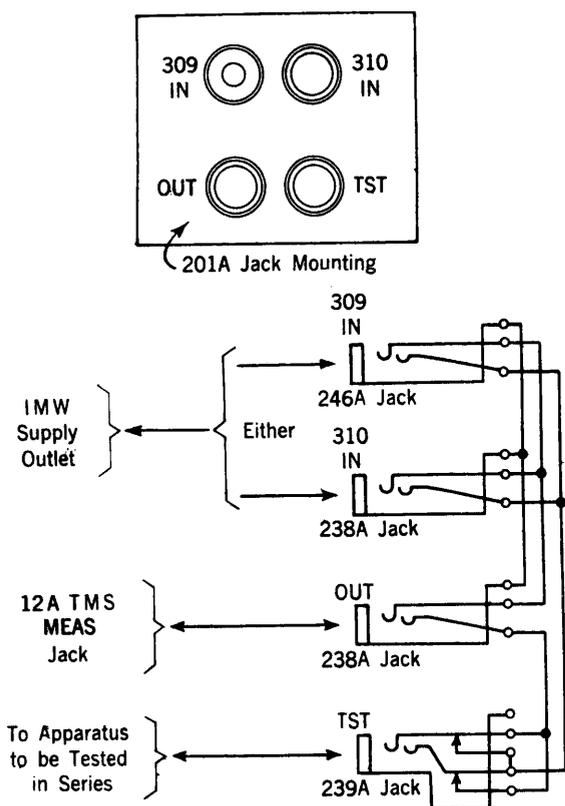

Fig. 4 - Jack Arrangement for Testing Apparatus in Series Condition.
4.16 When the 12A set is employed for measurements of apparatus in the series condition, special arrangements are necessary to provide for the insertion of the apparatus into either the tip or the ring conductor connecting the 12A set to the sending power at the supply outlet. A suggested arrangement consists of four jacks in a 201A jack mounting as shown in Fig. 4. The individual pieces of apparatus should be ordered and the assembling should be done locally since no such assembly is coded. One of the IN jacks is connected to the sending power at a supply outlet and the OUT jack is patched to one of the 12A set MEAS jacks. When there is no plug in the TST jack the 12A set measures the power received from the supply outlet, directly. Then, by patching the apparatus to be tested in the series condition to the TST jack, the reading obtained on the 12A set minus the reading obtained before the patch was made to the TST jack indicates the inserted series loss. As mentioned in Paragraph 4.15 the 2W17A cord (or equivalent) together with the various tools fitting the 360-type tool provide convenient means for picking up the apparatus to be connected to the TST jack. Any three-conductor cords having a 310 (110) plug on one end and either a 310 (110) or a 309 (109) plug on the other end, may be used for the patch between the OUT jack and the 12A set. Two IN jacks are provided for greater flexibility so that cords having either 310 (110) or 309 (109) plugs may be used directly.